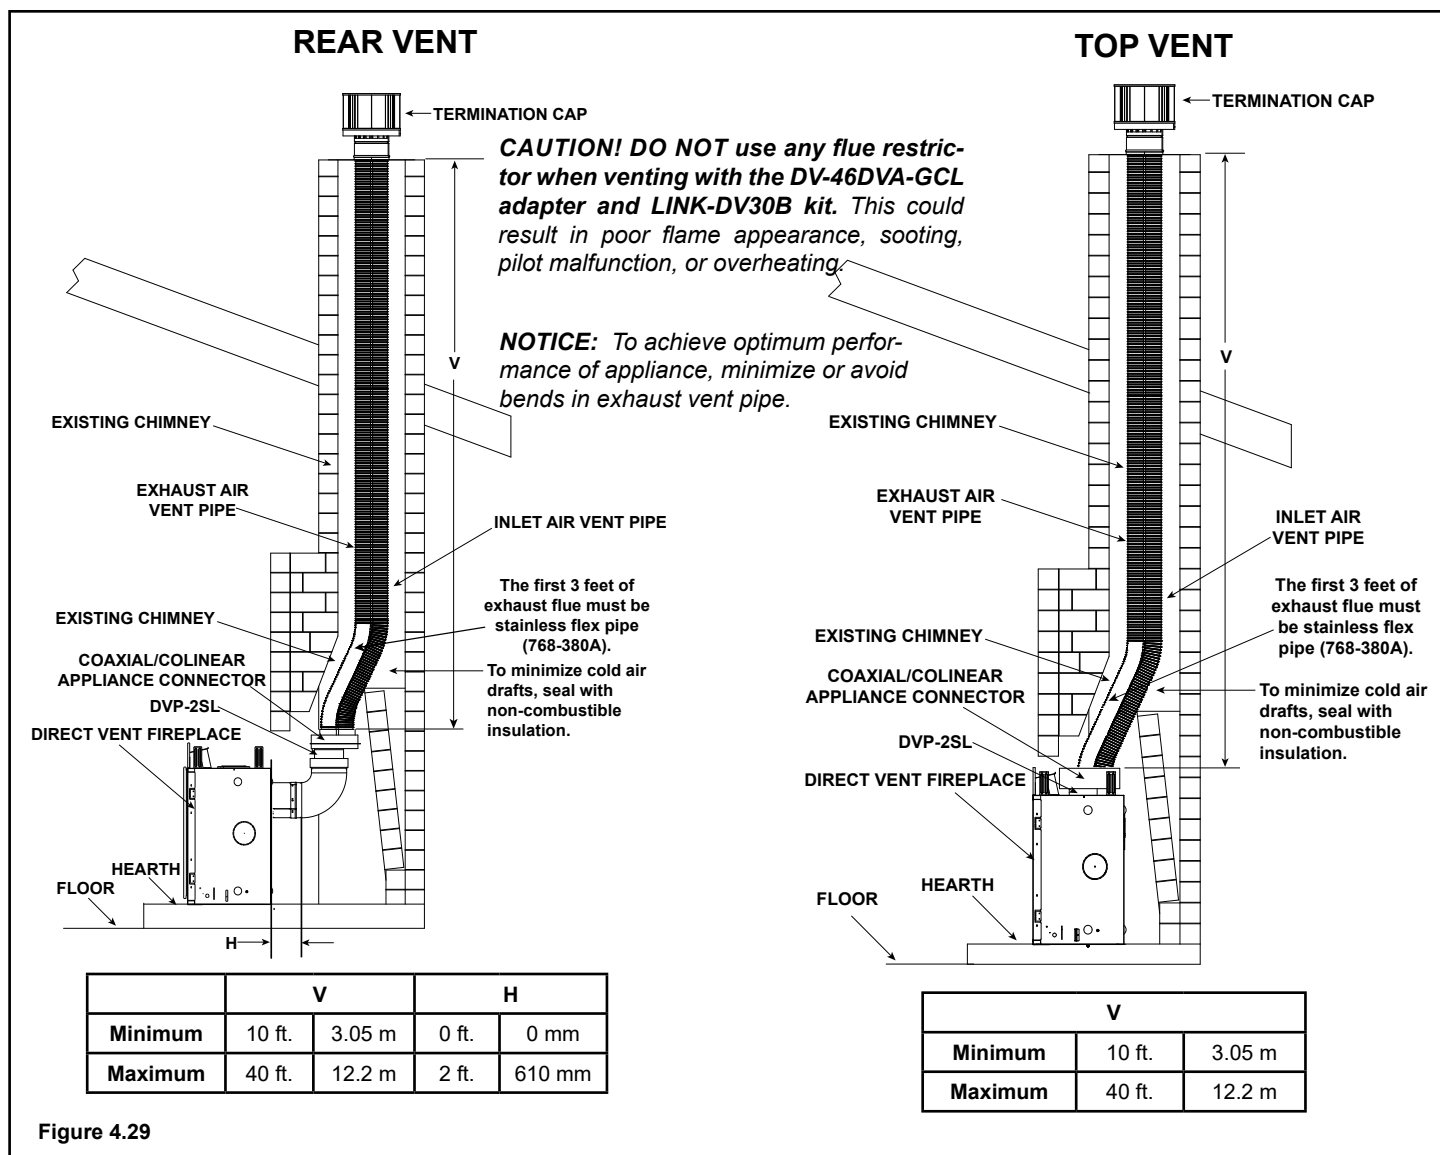

Figure 4.29
- Remove the rear seal cap and insulation if equipped. Connect the DVP-2SL adapter to the vertically positioned elbow. Follow installation instructions included with DVP-2SL kit. Secure DV-46DVA-GCL adapter to DVP-2SL with 3-1/2 in. self-tapping screws. See Figure 4.29.